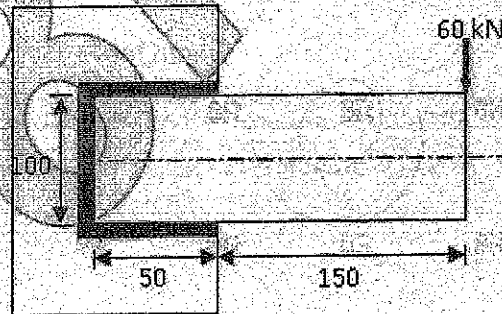

Figure 1
3. A welded connection as shown in figure 1 is subjected to an eccentric force of 60 kN in the plane of the welds. Determine the size of the welds, if the permissible shear stress for the weld is 100 MPa. All dimensions are in mm only. [15]